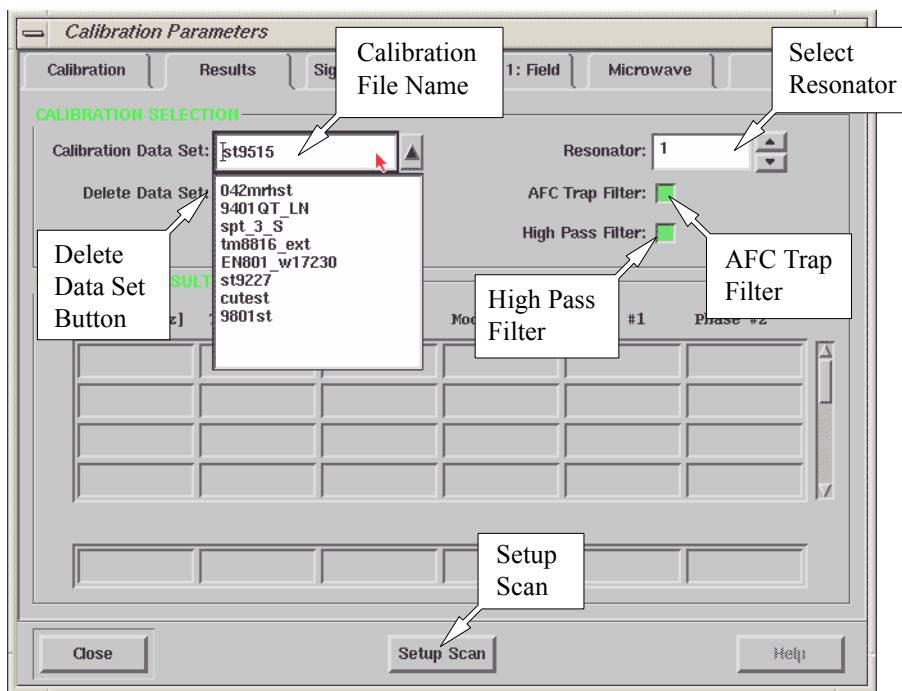

Figure 2-7 The Results folder of the Calibration Parameters dialog box.
8. **Enter the filename for the calibration file.** Click the **Results** tab. (See Figure 2-7.) The calibration file name usually consists of two to four letters that identify the type of cavity (ST for ER 4102ST or SHQE for ER 4122SHQE) followed by the serial number of the cavity. This number is found on the back or front of the cavity. For FlexLine series resonators the serial number is found at the top part of the module block. Enter the calibration file name into the **Calibration Data Set** box. If you are re-calibrating, you can click the file name in the drop down list of the **Calibration Data Set**. The new values will be appended to the calibration file or replace previous values in the file. If you want to start fresh, click the **Delete Data Set** button to delete the old calibration data.
9. **Select the resonator.** In almost all cases, the 1st Resonator should be selected. (See Figure 2-7.) The ER 4105DR dual cavity has two sets of modulation coils. By selecting 1st Resonator or 2nd Resonator, you are selecting the set of modulation coils that are to be calibrated.
10. **Turn on the AFC Trap and High Pass Filters.** The AFC trap filter blocks any signal components at the AFC modulation frequency that may contribute to noise in the EPR signal. The high pass filter suppresses low frequency signal components that also contribute to added noise in the EPR signal. These two filters influence the calibration values of the signal channel. By default they are both selected. Ensure that both options are selected. (See Figure 2-7.) Only under very rare circumstances would you acquire spectra without these filters.
11. **Start the Setup Scan.** When the Setup Scan function is activated, the magnetic field is swept rapidly (up to 50 Gauss at about a 30 Hz rate) to provide a “real time” display of the EPR spectrum on the screen. Click the Setup Scan button in the Results folder. (See Figure 2-7.)